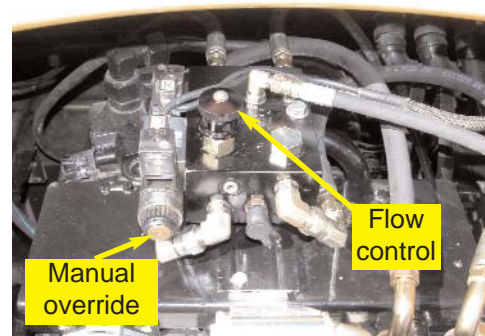

Figure 8. Automated Steering flow control knob and manual override button.
- Turn counter-clockwise to increase flow.(Figure 8.)
- e. The coils on the Automated Steering Block have manual push button overrides. Push either manual override to move the steering wheels all the way to one extreme. (Figure 8.)
- f. Count the number of seconds for the steering wheels to move all the way in the opposite direction while pressing the manual override of the other coil. (Figure 8.)
- g. Adjust the Automated Steering oil flow control to achieve an end-to-end steering cycle time of approximately **15 seconds**. (Figure 8.)